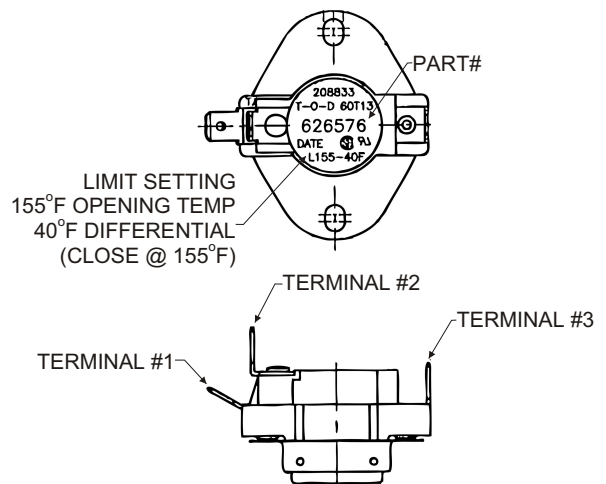

Figure 5
13. The ignition control module is located behind the burner access panel on all of the R6GP series units. (Compartment is located to the right of the unit control panel, refer to the Unit Installation Instructions) Some unit models incorporate a Fenwal ignition control module. **See Picture 1.** On these units the air temperature limits are a single pole, double throw design and are connected as shown in wiring diagram 1 below. Also, **See Figure 5** to reference the terminal orientation on these limits.
Most R6GP Series units utilize a UTEC ignition control board; this configuration can be seen in **Picture 2.** This control method utilizes a single pole, single throw air temperature limit. (Terminals 1 & 3 ONLY – as **Shown in Figure 5.** Some limits included in this kit only have terminals 1& 3 and are for use only on units incorporating the UTEC control.) These units will be wired as shown in Wiring diagram 2.